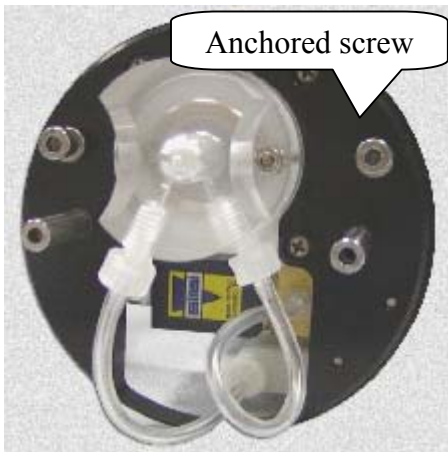

Fig. 37 Diluter – Top view
5. Unscrew the two anchored screws and pull out the Diluter Module from his hole (Fig. 37).